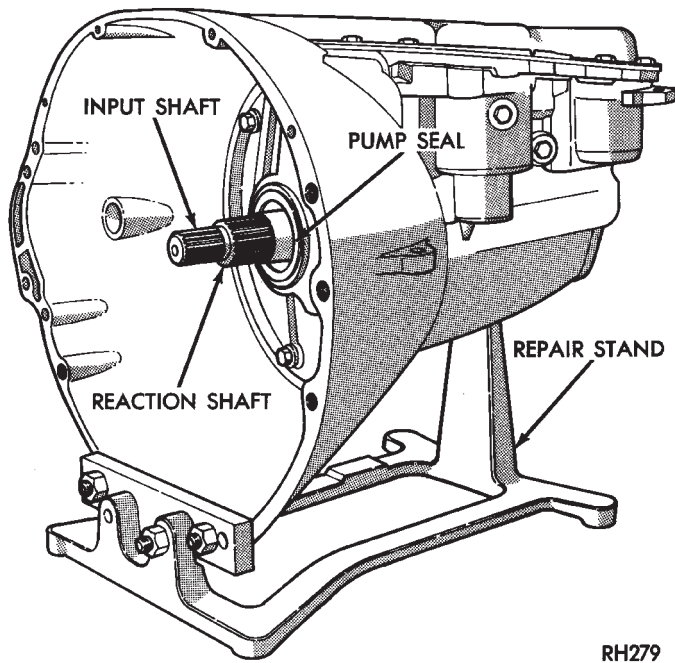

Fig. 1 Transmission Mounted On Typical Repair Stand
- (1) Clean transmission exterior with steam gun or with solvent. Wear eye protection during cleaning process.
- (2) Remove throttle and shift levers from valve body manual shaft and throttle lever shaft.
- (3) Mount transmission in repair stand C-3750-B (Fig. 1).